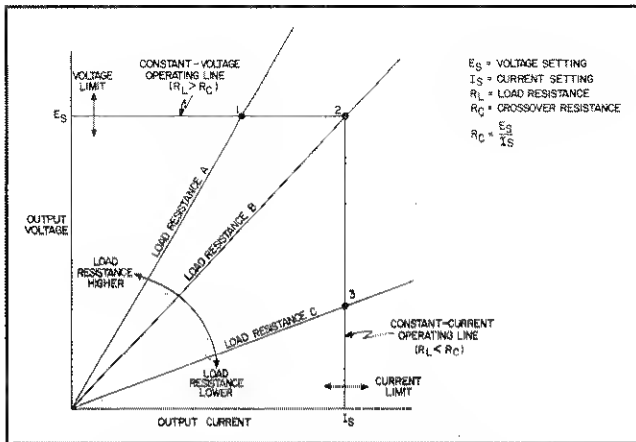
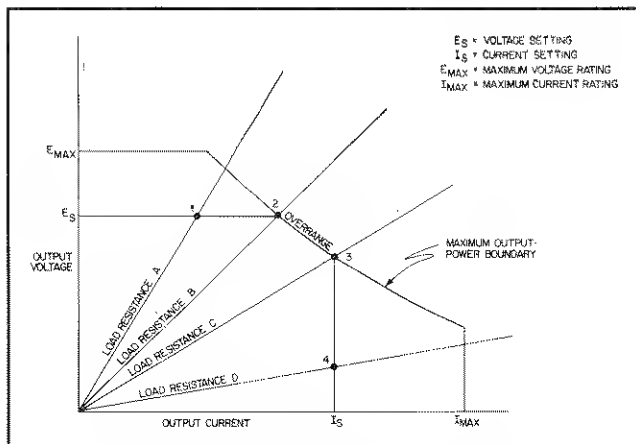

Figure 3-2. Determining Operating Point
Figure 3-3. Overrange Operation
3-6 The HP 6038A can operate as a constant voltage (CV) or constant current (CC) source over a wide range of output voltage and current combinations. The specifications table contains a graph showing the overall output range of the power supply. Figure 3-2 shows a rectangular operating locus that is defined by voltage and current settings of the power supply. The point on that locus at which the power supply actually
operates is determined by the load resistance. Three load-resistance lines are shown on Figure 3-2. The line representing load resistance A, the highest load resistance shown on the graph, crosses the operating locus at point 1. Point 1 is on the part of the operating locus defined by the voltage setting, so the power supply operates in CV mode.
3-9 In Figure 3-2 the entire rectangular operating locus falls within the output range of the power supply. Figure 3-3 shows a situation in which the voltage and current settings are high enough that the rectangular operating locus is cut off by the maximum output power boundary of the power supply. For the load resistance A, the power supply operates in CV mode at the voltage and current values for point 1. Similarly, for load resistance D the power supply operates in CC mode at point 4.